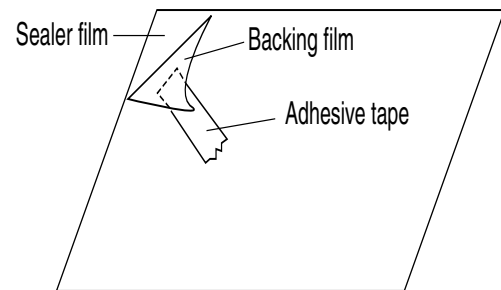

**Figure C-7. Door Replacement**
5. Hold the door panel to the door frame with three (3) screws.
8. Catch two (2) pins of door panel on two (2) hole of upper and lower oven hinges as shown Figure C-7.